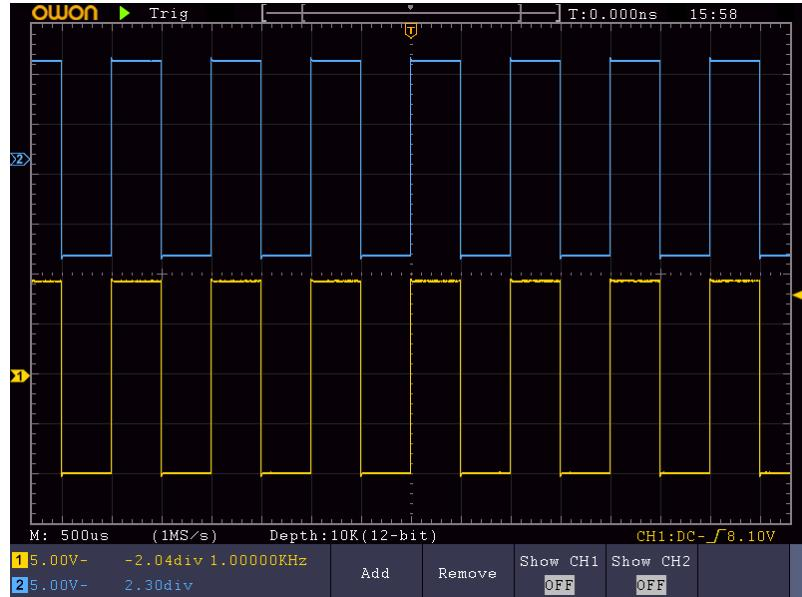

Figure 6-2 Waveform of Gain Measurement
- (1) Push the **Autoset** button and the oscilloscope will automatically adjust the waveforms of the two channels into the proper display state.
- (2) Push the **Measure** button to show the Measure menu.
- (3) Select **Add** in the bottom menu.
- (4) In the right menu, select **CH1** in the **Source** menu item.
- (5) In the left Type menu, turn the **M** rotary control to select **PK-PK**.
- (6) In the right menu, select **Add**. The peak-to-peak type of CH1 is added.
- (7) In the right menu, select **CH2** in the **Source** menu item.
- (8) In the left Type menu, turn the **M** rotary control to select **PK-PK**.
- (9) In the right menu, select **Add**. The peak-to-peak type of CH2 is added.
- (10) Read the peak-to-peak voltages of Channel 1 and Channel 2 from the bottom left of the screen (see *Figure 6-2*).
- (11) Calculate the amplifier gain with the following formulas.